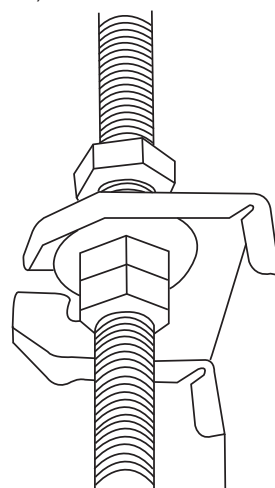

Fig. 4.8
8. Mount the indoor unit with at least two people to lift and secure it. Insert suspension bolts into the unit's hanging holes. Fasten them using the washers and nuts provided. (See Fig. 4.8)